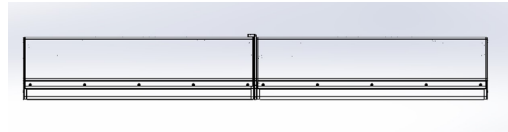

Figure 6 - AC6 columns grill down
4. Attach Stinger Mounts (D) to AC6
- Center the mount on the Flytracks for each AC6 (Figure 6)